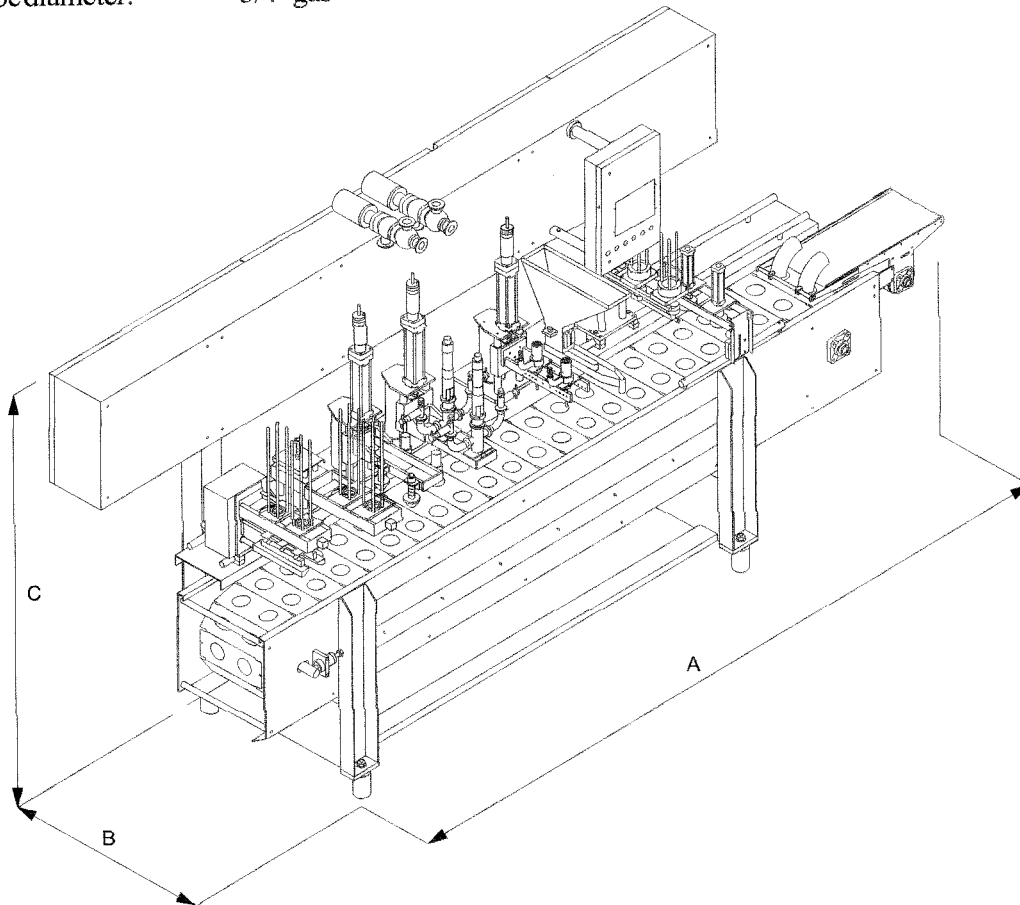

Fig. 3.2
- The lamella with the full containers is jogged forward once (a number of times) and stops under the lid feed station (*Part.6 Fig.3.2*). One lid per row is positioned over the containers. At the next station, the lids are pressed onto the container. (An ink-jet date stamping station is also available on request.).
Fig. 3.2 shows a machine for the production of cones or cups.